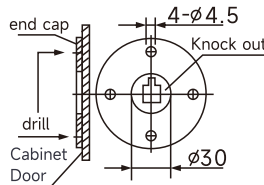

Figure 27
(5)As shown in Figure 27, clamp the protruding center part of the disc end cover onto $\Phi 3$ drill holes of the cabinet door. Drilling holes 4- $\Phi 4.5$ in the left and right horizontal directions of the cabinet door and the vertical direction of the upper and lower, and position them with the 4 small holes of the end cover, then use a hammer to knock off the protruding center part of the end cover.